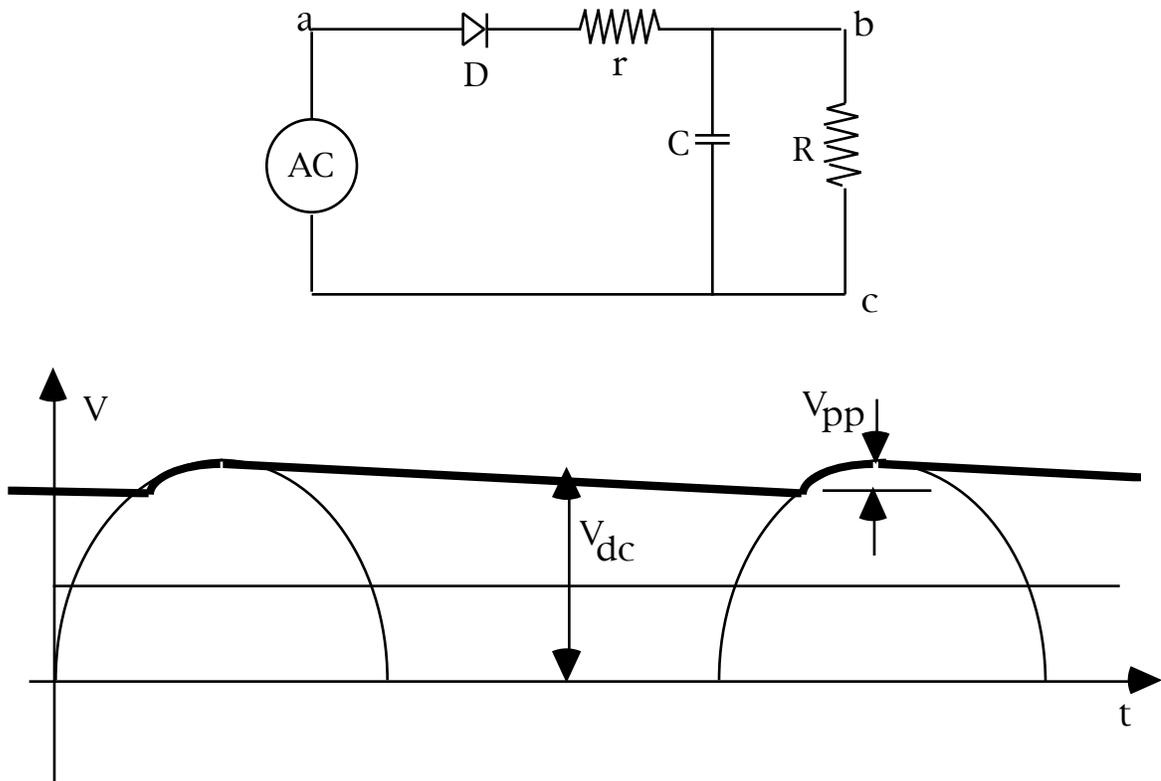

Figure 3
The waveform of Fig.(2) can not be used as a good DC power supply in most applications due to its significant AC component. To make the DC voltage more like the constant voltage of a battery, it is necessary to filter out the AC component. The simplest filter is a capacitor. As shown in Figure 3, a capacitor C is connected in parallel with the load resistor to absorb the fluctuation of the voltage. When the point a is at high voltage, not only the load resistor draws current, the capacitor draws current as well. The capacitor is charged to the peak voltage of the sinusoidal waveform. When the voltage at the point a start to decrease, the capacitor start to discharge through the load resistor. (Why not through the diode?) Namely, the capacitor functions temporarily as a "battery" until the sinusoidal AC voltage becomes higher than the voltage across the capacitor again. The charging and discharging processes repeat themselves every period so that the voltage across the load resistor is kept between certain minimum voltage V_{min} and the maximum voltage V_{max} . (See the waveform in Fig.3)The fluctuation of the voltage is called the ripple voltage, and it is defined as